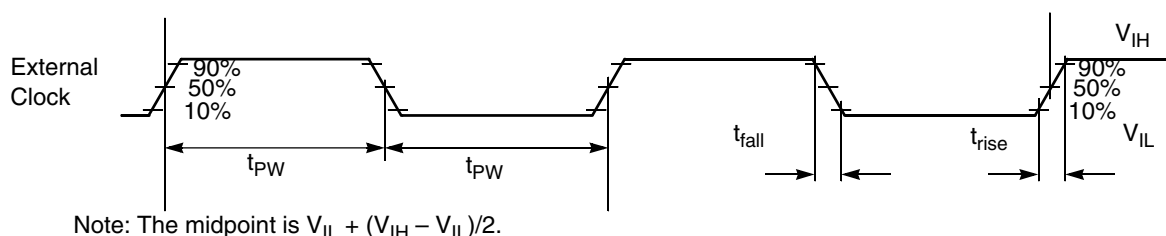

**Figure 7. External Clock Timing**
1. See Figure 7 for detail on using the recommended connection of an external clock driver.